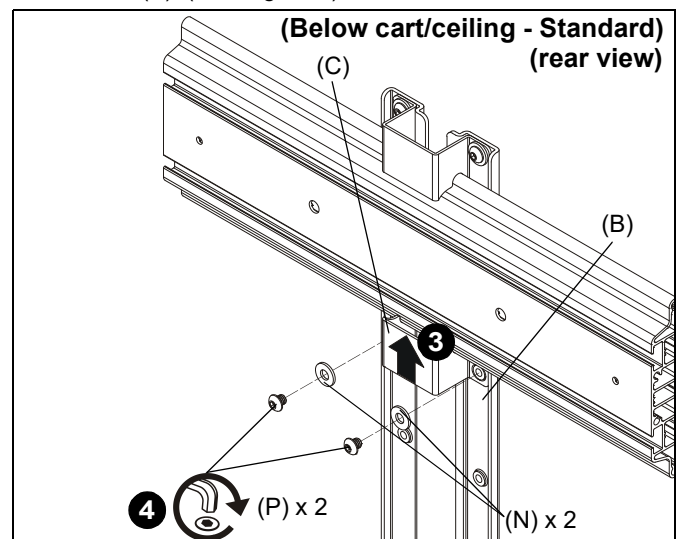

Figure 8
3. Slide second shelf bracket (C) underneath head assembly, lining up holes on shelf bracket (C) to holes on main bracket (B). (See Figure 8)
4. Use two 1/4-20 x 1/4" button head cap screws (P) and two large washers (N) to secure shelf bracket (C) to main bracket (B). (See Figure 8)